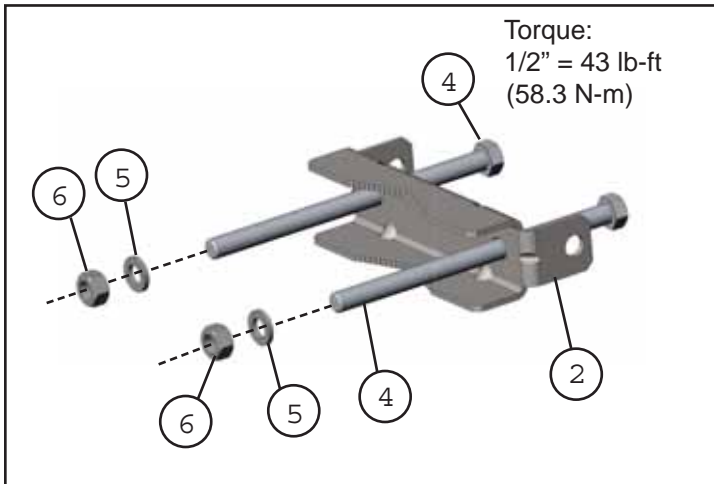

Figure 1. Upper Bracket Assembly.
2. Pre-assemble the 7-1/2 inch hex head bolts (Item 4) and the short and long brackets (Items 2 and 3), as shown in Figures 1 and 2. Tighten hex nuts on the lower and upper bracket assemblies to 43 lb-ft (58.3 N-m).